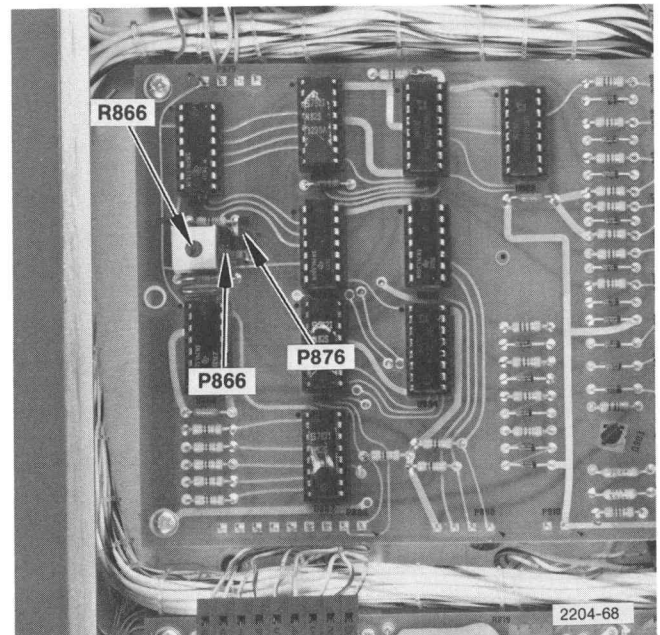

Fig. 6-21. Color Bar Logic Circuit Board.
b. Change P866 and P876 to the 1 position, Reverse Color Bars. Position 1 is with the jumper between plug pins 1 and 2, position 2 is with the jumper between pins 2 and 3. See Fig. 6-21 for plug and jumper locations.
h. ADJUST—Chrominance/Luminance Delay, R866 (Fig. 6-21), to place the luminance transition at graticule center.